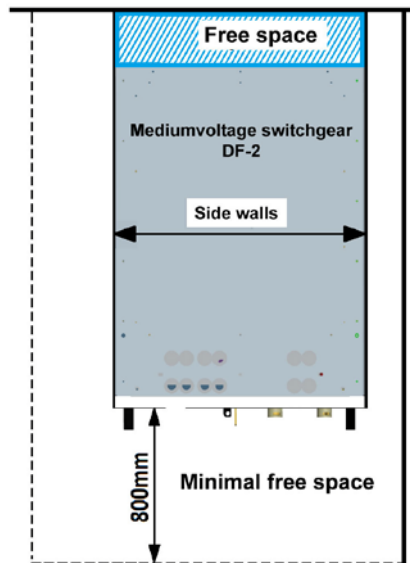

Figure 7: Top view of installed cubicles
- Between the rear side of the cubicles and the wall of the installation room, ample free space needs to be provided, as displayed in Figure 7. This layout corresponds with an assembly where the side plates of the cubicles reach the rear side of the installation room. As a result, the free space behind the cubicles is entirely closed off. Consequently, a possible internal arc will trigger the overpressure system of the rear plates.